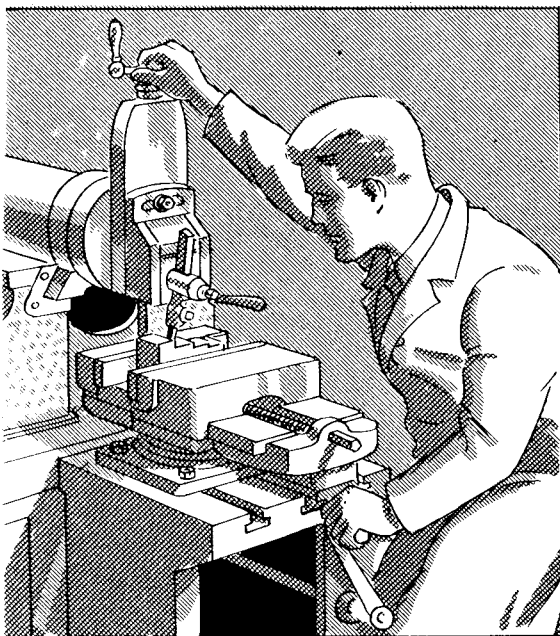

FIG. 507
7. Stand at the machine, or sit on a stool at the right-front corner of the table (Fig. 507).